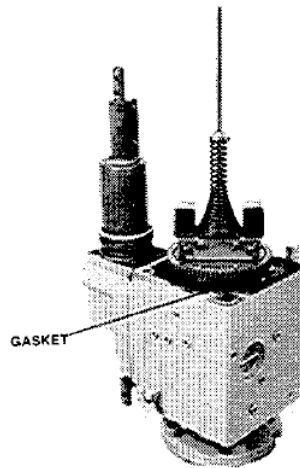

Figure 5-36. Power Case Assembly Complete
20. Put small gasket in top of power case (Figure 5-36.